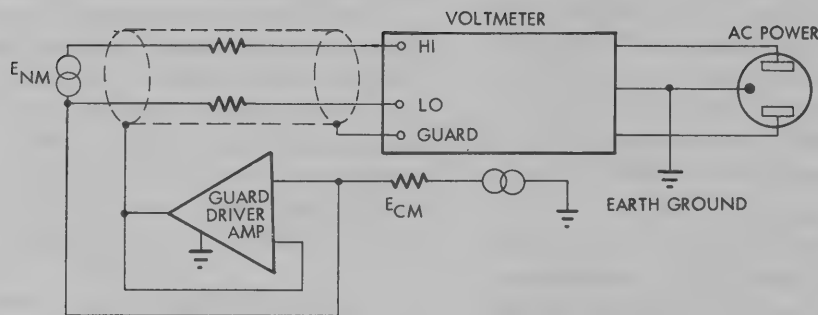

Figure 3-1. Guard connections.
a. A system of internal shields and guards have been included in the design and construction of the voltmeter. These shields and guards can be connected as shown in figure 3-1 to minimize common mode-to-normal mode signal conversion and induction of noise. The resulting measurement process in the voltmeter is sub-